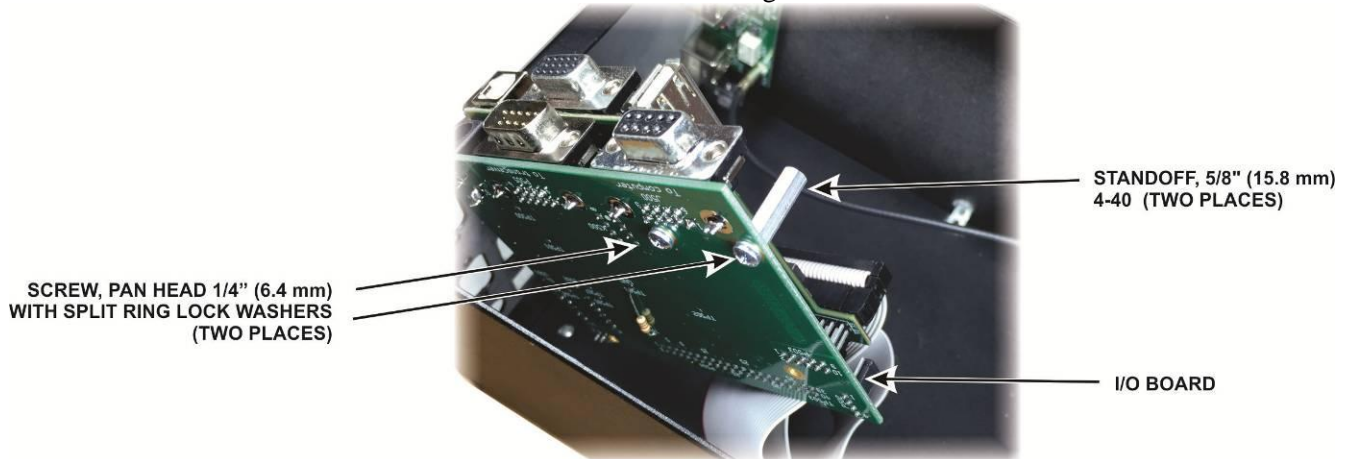

Figure 3. Installing Standoffs on P3 I/O Board.
- Install the two standoffs on the P3 I/O board as shown in Figure 3.